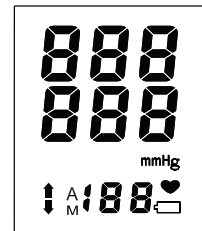
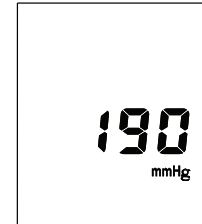

Fig. 1
Fig. 2
2. Press button 'O/I', and all symbols will appear on display in 2 seconds as Fig.1. Then two short beep will sound and '0 mmHg' will appear on the screen. Pump begins to inflate with display showing the reading of pressure. Generally the pressure will reach 190 mmHg as Fig.2;